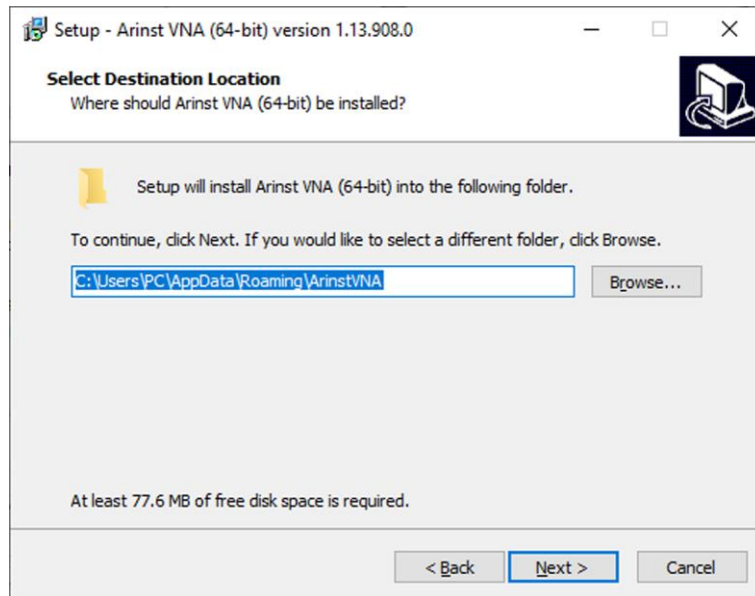

Figure 2.6-Selecting the application installation directory
2.6. In the installation dialog box, specify the path to the directory where the application should be installed by clicking the **Review** button. After selecting the application installation location, click **Next** (figure 2.6).